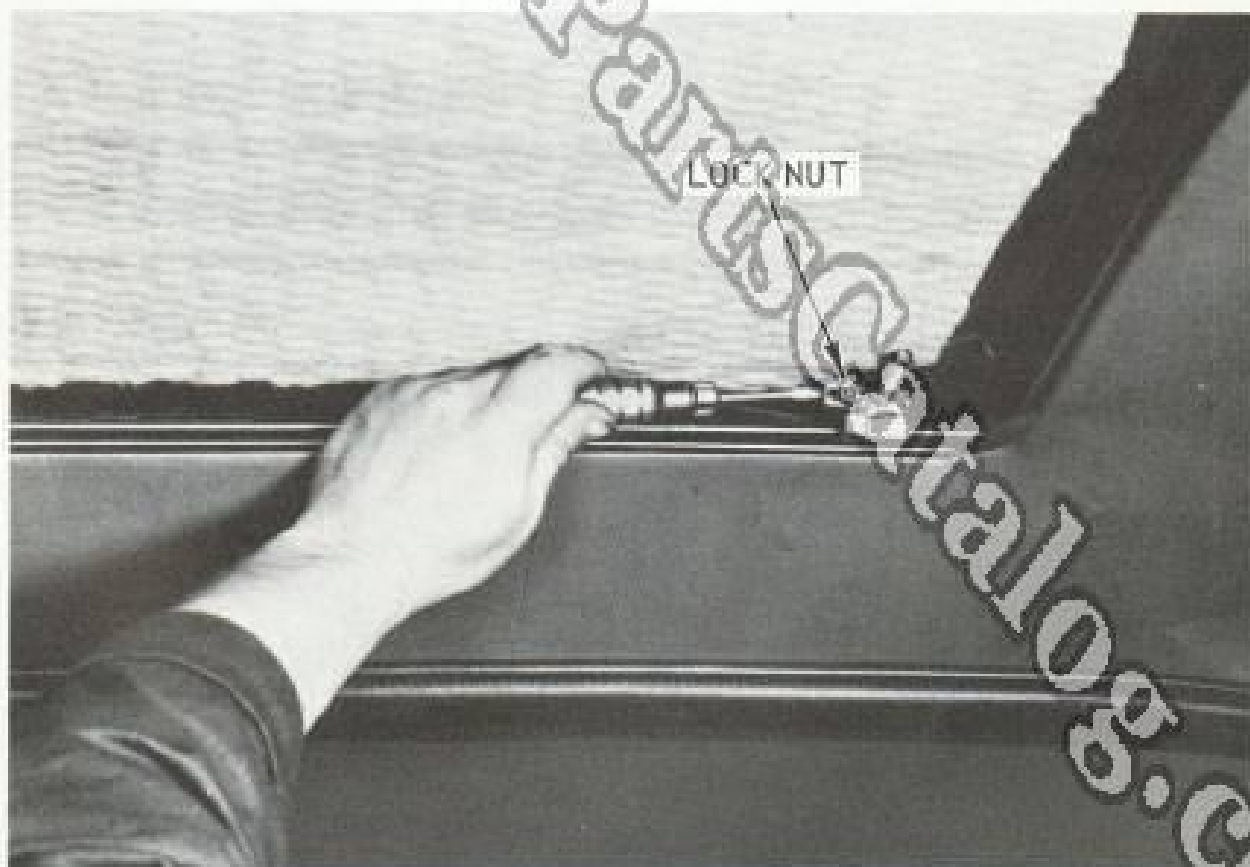

Fig. 26 - Adjusting Rear Slide to Provide Flush Fit of Roof Panel With Roof
30. To obtain a flush fit on one side of the rear of the roof panel with the roof, use an adjustable wrench¹, and loosen lock nut on the rear slide. See figure 26. Using a screwdriver, turn adjusting screw clockwise to raise roof panel or counterclockwise to lower panel. After desired flushness is obtained, tighten lock nut. Adjust opposite rear slide in the same manner, if required.
To obtain a flush fit on one side of the rear of the roof panel with the roof, use an adjustable wrench,[†] and loosen the lock nut on the rear slide. See figure 26. Using a screwdriver, turn the adjusting screw clockwise to raise roof panel or counterclockwise to lower panel. After desired flushness is obtained, tighten lock nut. Adjust opposite rear slide in the same manner, if required.